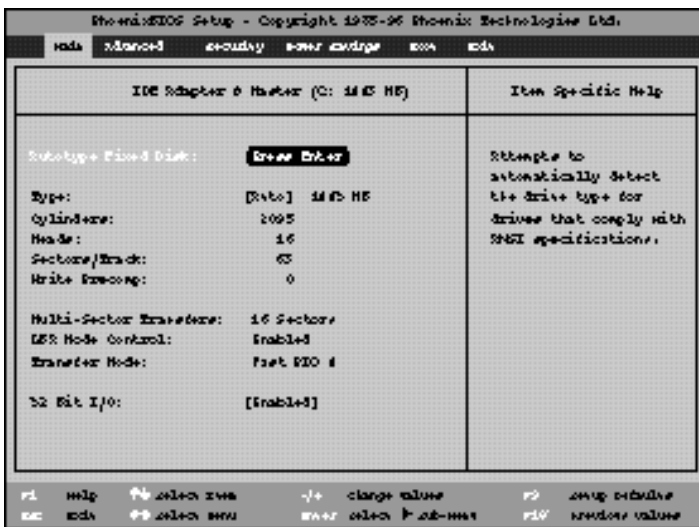

Figure 3-2 IDE Adapter Submenu
**IDE Adapter 0 Master** – allows you to select this submenu, (Figure 3-2), but displays the designator and capacity of the hard disk drive or CD-ROM drive connected to this interface.
**IDE Adapter 0 Slave** – allows you to select this submenu, (Figure 3-2), but displays the designator and capacity of the hard disk drive or CD-ROM drive connected to this interface.